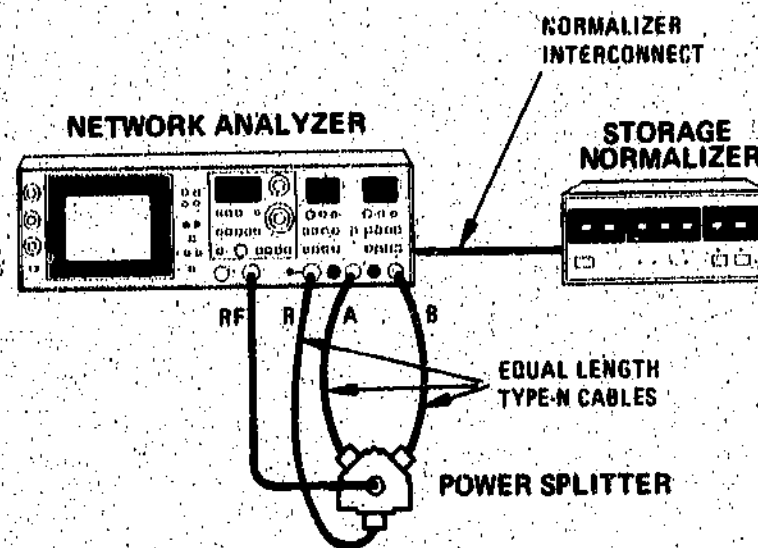

Figure 4-1. Frequency Response Calibration Test Setup
- b. Connect equipment as shown in Figure 4-1. Use Reference Extension cable HP part No. 08748-20025 on the 8748A. Set equipment controls as follows: